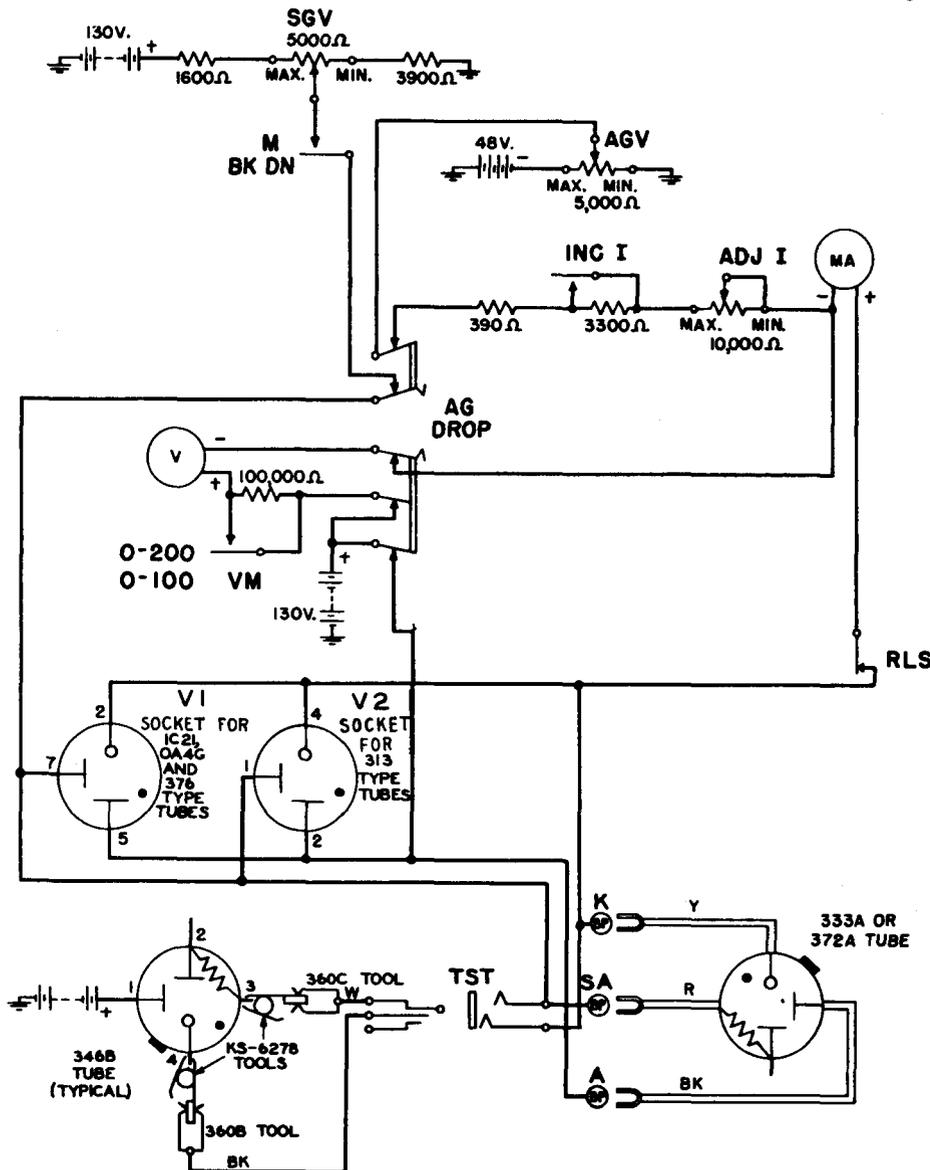

Fig. 5 - Anode Gap - Voltage Drop - Three Element Tubes
4.14 The circuit arrangement for measuring the anode gap voltage drop is shown in Fig. 5.